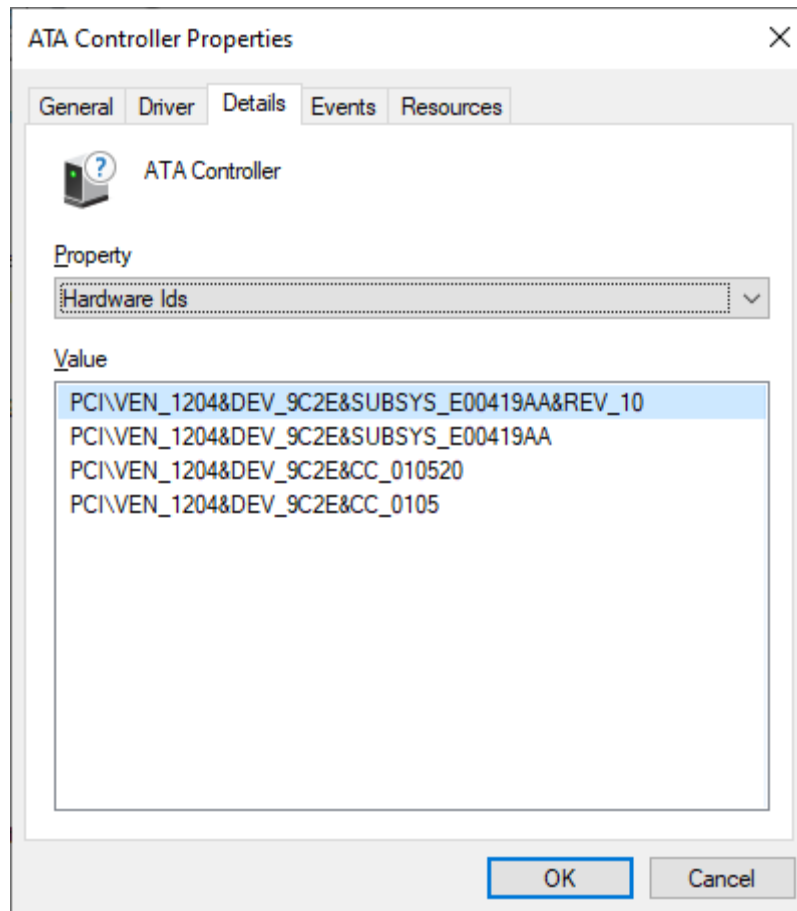

Figure 3.34. Hardware IDs of Certus-NX DMA Throughput Demo Device
- For Certus-NX family, the Hardware IDs of the Base System Device for the DMA Throughput Demo is `PCI\VEN_1204&DEV_9C2E&SUBSYS_E00419AA` as shown in Figure 3.34.